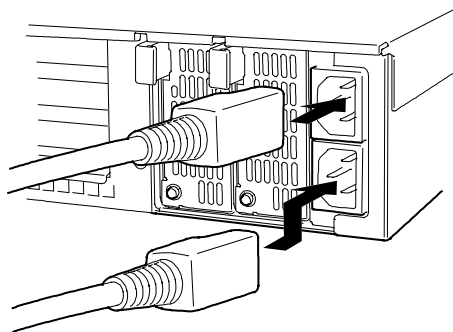

Figure 4-68. Installing the Power Cords
8. Connect two power cords. Use the power s provided with the server. The AC POWER lamps flash when the power cords are connected. See Figure 4-68.